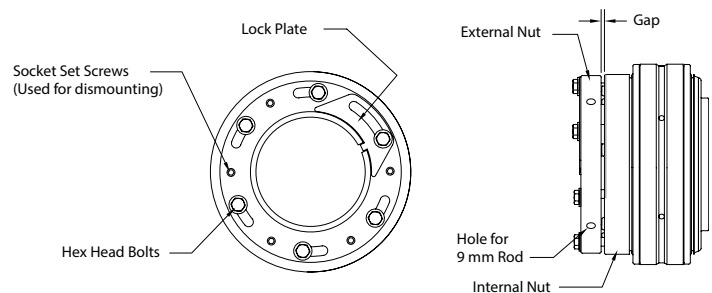
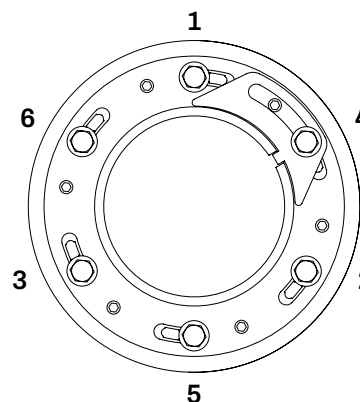

Figure 1 - Bearing with dual nut as shipped with gap
Figure 5 - Correct installation star pattern
The lock nut assembly is comprised of an external nut and internal nut. The bearing is shipped such that there is a gap between the two nuts. The two nuts must maintain this gap prior to mounting the bearing. The dual nut configuration prior to installation is shown in Figure 1. Note the position of the external nut slots relative to the hex cap bolts.
7. At this point the machined studs used to create the gap have been positioned inside the elongated slots, and the two nuts can be pulled together, which installs the bearing on the shaft. **If the external nut moves during this step, it is imperative to reposition the nut assembly so that the external nut is positioned with the alignment mark made in step 4 before proceeding to the next step.** Gradually tighten the hex head bolts in a star pattern, as shown in Figure 5, until the external nut firmly seats against the internal nut and the gap is completely closed as shown in Figure 3 (not yet full torque).
8. Remove the hex head bolt nearest to the slot in the adapter. A slight gap may appear between the two nuts when the hex head bolt is removed. This is a normal occurrence and the gap will close up when the hex head bolt is reinstalled. Install the lock plate so that the tab fits into the adapter slot. If the lock plate does not line up with the two holes, it can be flipped over to fit as shown in Figure 1. Reinstall the hex head bolt to secure the lock plate. **Using a star pattern, as shown in Figure 5, torque the hex head bolts to the values shown in Table 1.** It is considered a best practice to initially tighten the hex head bolts to 50% of full torque, then tighten again to 100% full torque (using the star pattern both times).